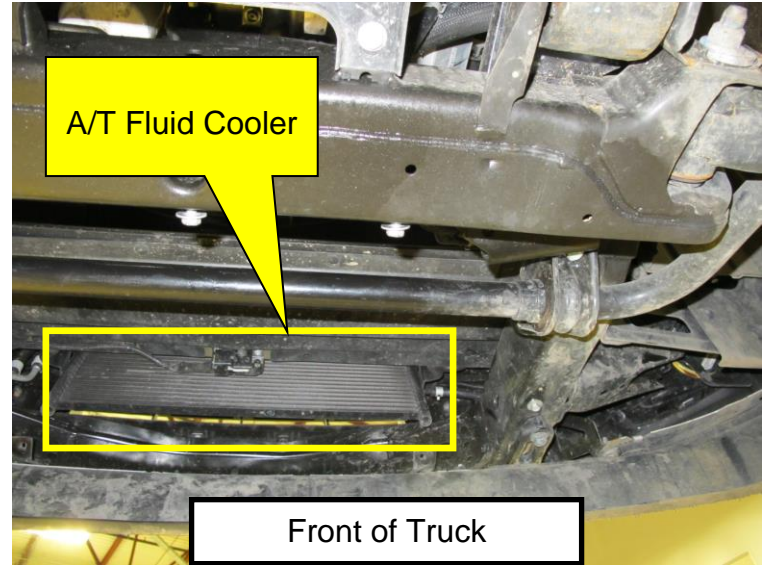

Figure 11
9. Locate the A/T fluid cooler behind the front bumper (Figure 11).